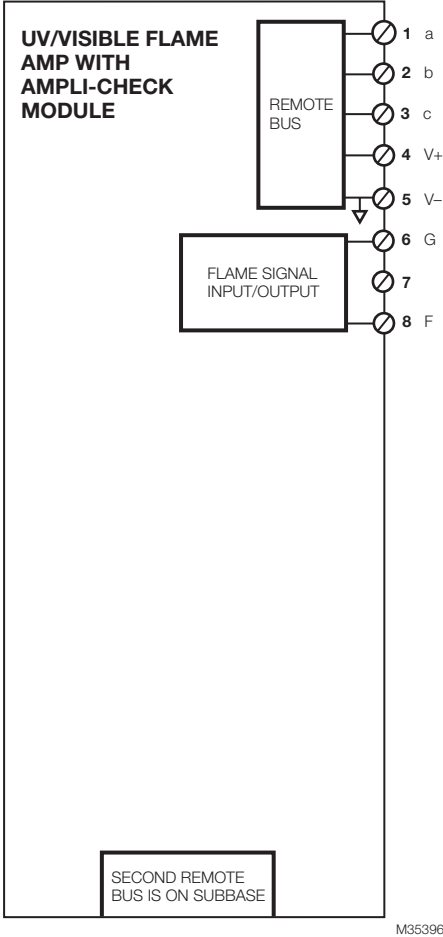

Fig. 4. R8001F1091 SLATE UV Visible Ampli-Check Flame Amplifier wiring.
1. Refer to Fig. 4 for proper flame detector wiring.
- (1)** Enclose scanner wiring without armor cable in metal cable or conduit.
- (2)** Follow flame detector Instructions.
- 6.** Check wiring, see Fig. 4.